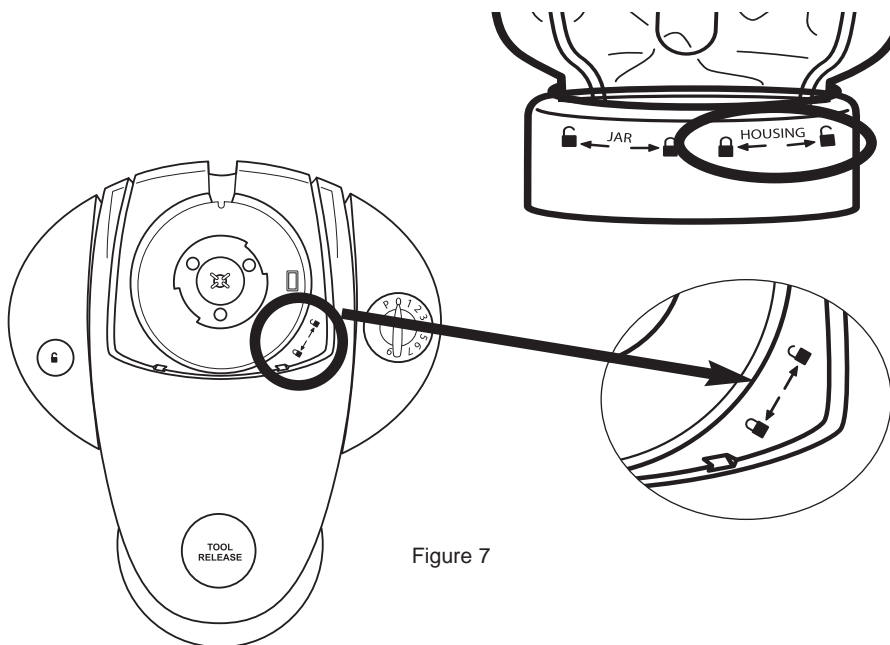

Figure 7
1. Before starting, make sure power cord is unplugged and the Speed Control Dial is in (O) OFF position.
5. Place the Blending Jar on top of the Motor Housing making sure it is firmly seated and not tilting to one side. Follow the arrows on the Motor Housing and the identical arrows on the Blending Jar Collar, see Figure 7. Turn the assembled Blending Jar clockwise until locked into position. Test to make sure the Glass Blending Jar fit is secure.